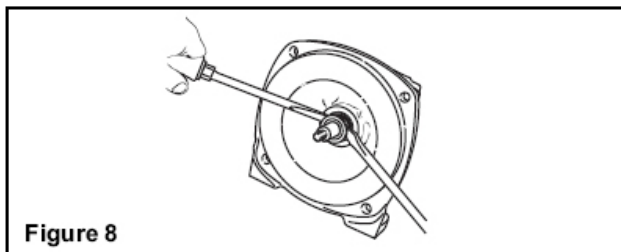

Figure 8
1. Lightly lubricate the Shaft for easier removal of the Seal. Using two screwdrivers positioned opposite each other, pry the rotary portion of the Seal from the Shaft (See Figure 8).